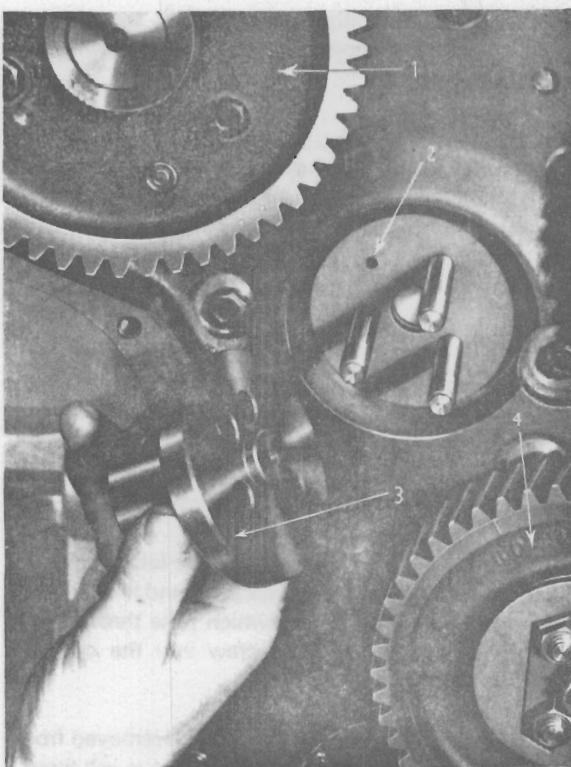

Fig. J.4.
7. The idler gear hubs may now be removed from the studs located in the front of the cylinder block (See Fig. J.4).